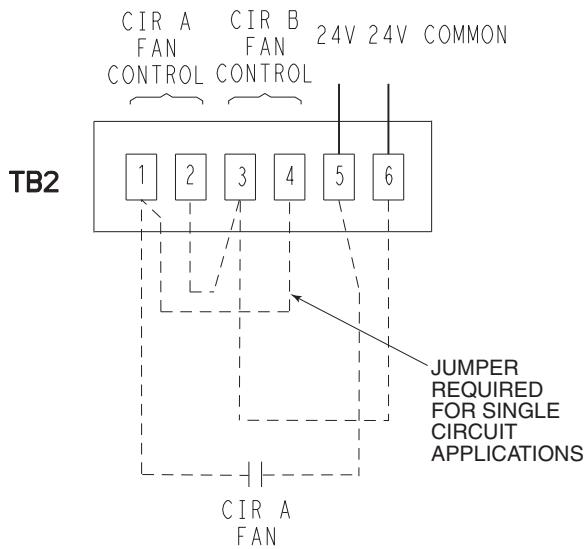

Fig. 31 — Single Circuit 09RC050-230 with 30HX Control Circuit Wiring
3. For single unit applications a jumper should be installed between TB2 terminals 1 and 4. See Fig. 31.